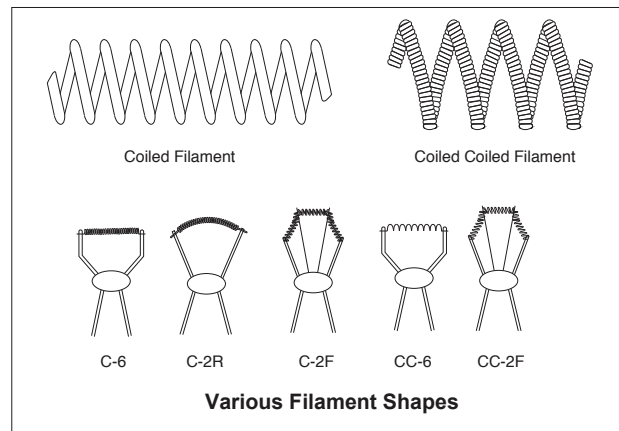

Figure 7
1. Voltage-Generally, the higher the desired operating voltage, the longer the filament must be. Because of the length of wire required, even low voltage subminiature lamps have filaments that are coiled. High voltage lamps, typically above 6.3 volts, will require additional filament supports called anchor wires. In some cases, the filament is so long that it will have to be coiled twice to be able to fit in the size bulb that is being used (See Figure 7).